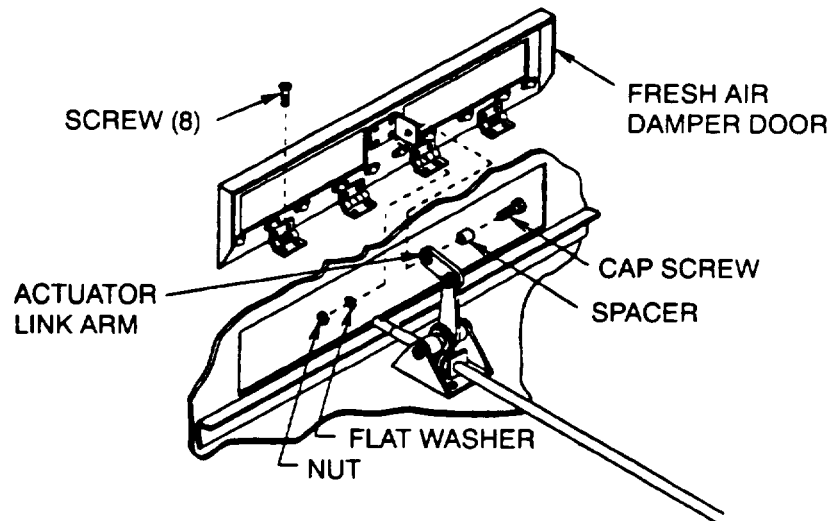

Figure 4-42. Fresh Air Damper Door
- (12) Using two wrenches, secure link arm to gear arm assembly with a cap screw, spacer, flat washer, and nut, (See Figure 4-42.)
- (13) Using screwdriver, secure damper door hinges to casing with eight screws. (See Figure 4-42.)
- (14) Using two wrenches, connect link arm to bracket on damper door with a cap screw, spacer, flat washer, and nut.